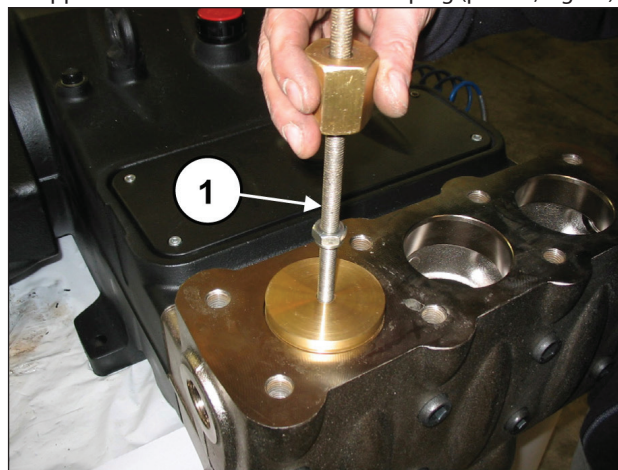

Fig. 90
Extract the valve plug with the use of an extractor hammer to be applied on the M10 hole of the valve plug (pos. ①, Fig. 90).